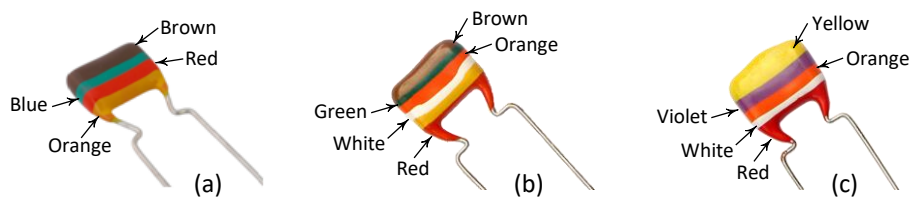

Fig.1-146: Series connected inductors for Ex. 18
17. In Fig.1-146(c) the values of mutually coupled inductors are  $L_1 = 4\text{ H}$ ,  $L_2 = 2\text{ H}$ , and  $L_3 = 2.5\text{ H}$ . Assuming,  $M_{12} = 1.5\text{ H}$ ,  $M_{23} = 2.0\text{ H}$ , and  $M_{23} = 0.5\text{ H}$ , determine the equivalent inductance.